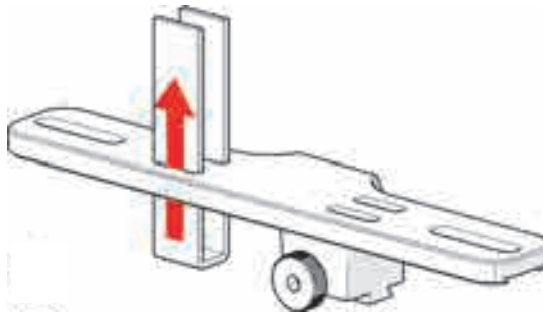

Figure 4-140 Inserting the Velcro straps
1. Insert the Velcro straps as shown in Figure 4-140 on page 196.